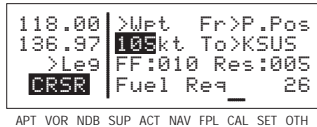

Figure 4-60
6. Select your estimated ground-speed for the trip (figure 4-60).